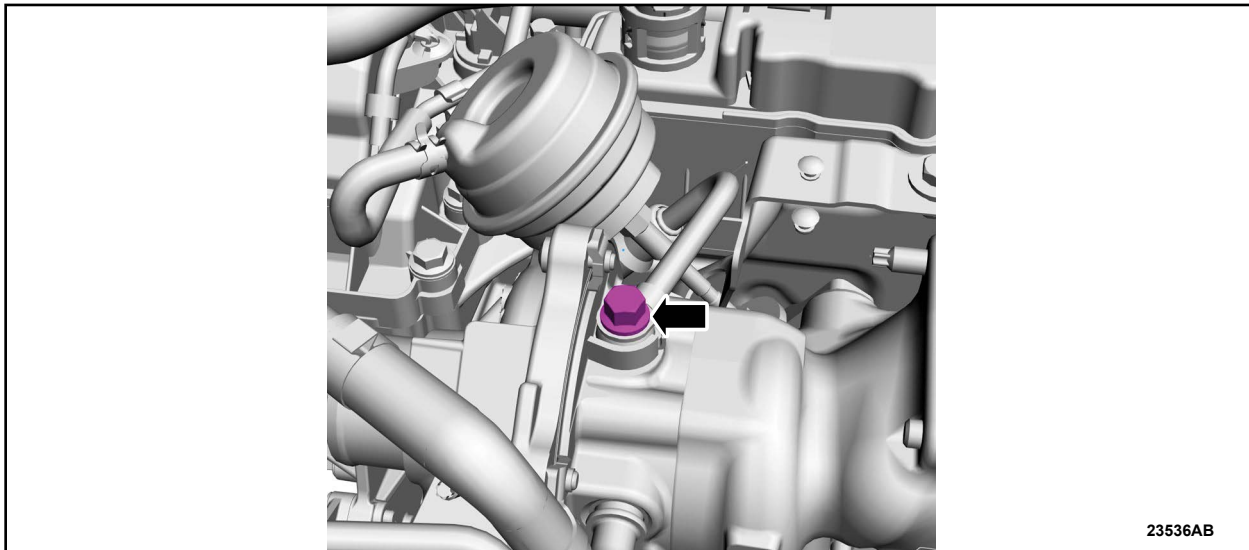

FIGURE 32
39. Tighten the banjo bolt. See Figure 32.